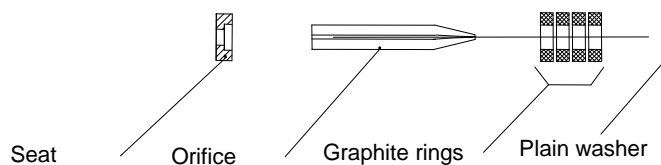

Figure 15 Dilution cross with graphite packing (320 °C (608 °F) Version)
- Push the injector out with the mounting tool (pos. ③, Fig. 15). Pushing it out from the opposite side;
Figure 15 shows the dilution cross with the orifice and the packing (320°C (608 °F) version).
- Push out the injector with the mounting tool (Pos. ③, Fig. 15) from the jet pipe side;
- Push out the orifice, the orifice seat and the graphite packing carefully from the opposite side using the mounting tool (pos. ③, Fig. 15);
- Push 4 new graphite rings and the plain washer on the orifice (dimension see Fig.15);